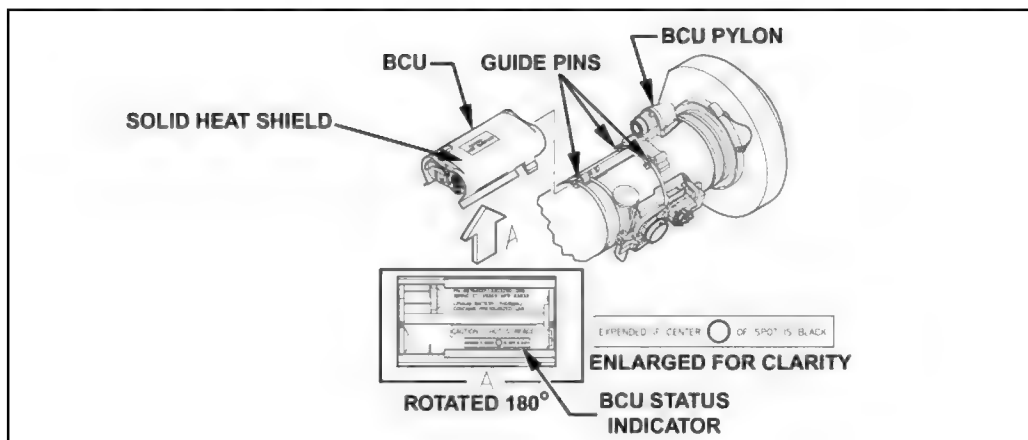

Figure 2-37. Old battery coolant unit.
- (1) Remove the expended BCU.
- (2) Kneel on the left side of the round and position the Javelin on the ground so the handgrips point up.
- (3) If BCU has solid heat shield (Figure 2-37):